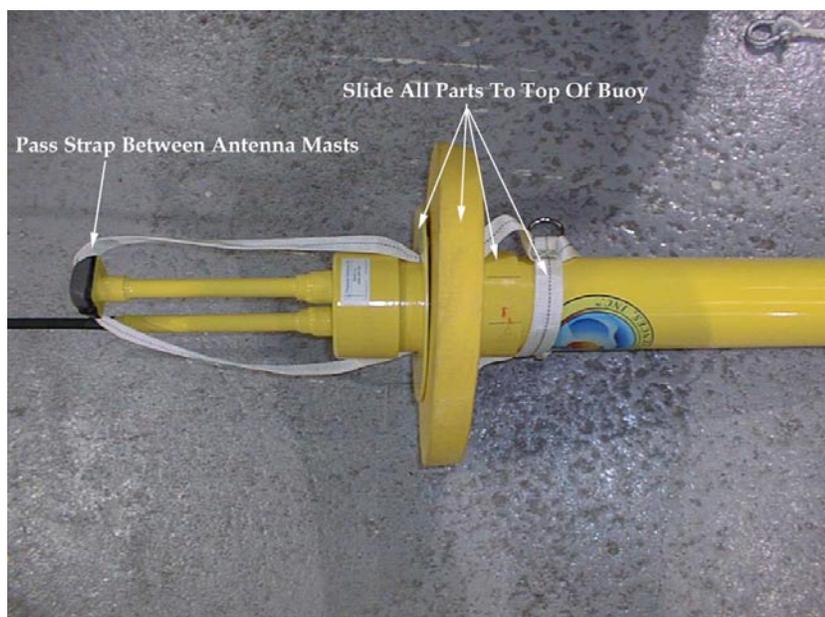

Figure 11
I. Slide all the floatation parts and bridle towards the top of the buoy. Pass the strap between the antenna masts. Ensure the straps are not twisted. (Fig. 11)